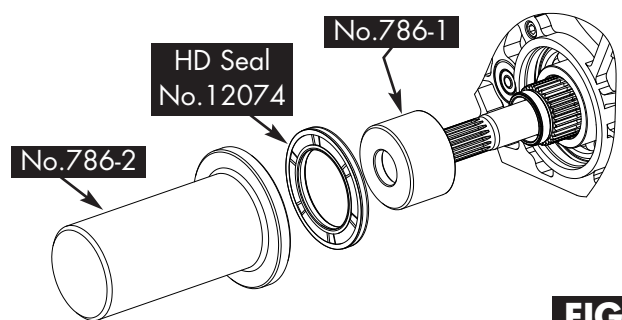

FIG 1
4. Gently slide new seal with the garter spring facing the Trans case over cap No.786-1 and up to it's bore. **See Fig 1.**
5. Next gently place Tool No. 786-2 over main shaft and up to new seal. With your brass hammer gently tap seal into its bore until it is making contact with trans case. **See Fig 1.**